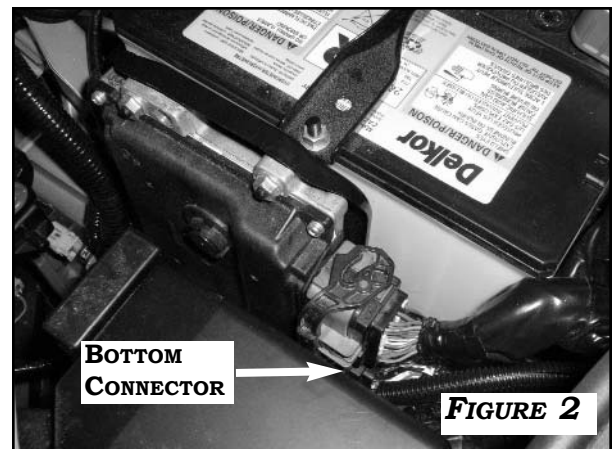

FIGURE 2
2. REMOVE THE **BOTTOM** CONNECTOR **EO1** OF THE ECM. FIGURE 2